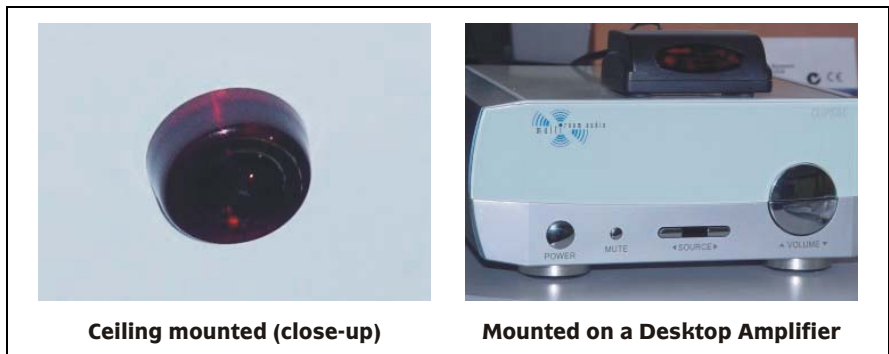

Figure 9 – Example IR targets
Multi Room Audio Amplifiers can distribute infrared (IR) remote control signals through to a Matrix Switcher or Distribution Unit. IR is received by IR Targets installed in a wall or ceiling, or plugged directly into a Desktop Amplifier (refer to Figure 9). IR is distributed to Emitters which are plugged into the Matrix Switcher or Distribution Unit, and positioned over the IR receiver of the audio source equipment.